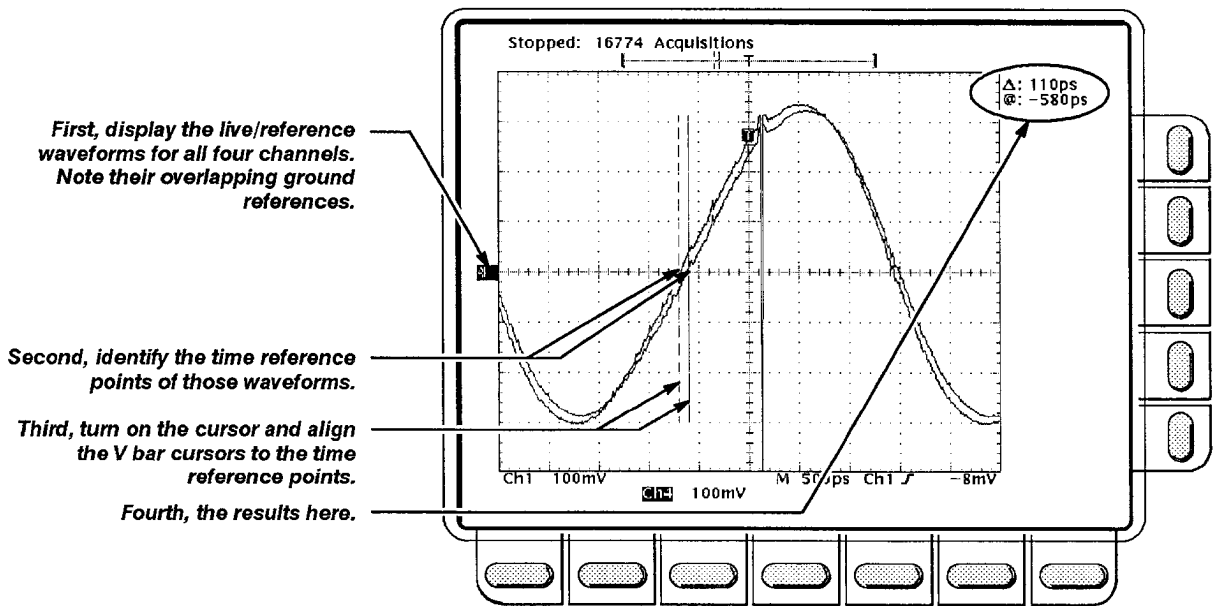

Figure 4-11: Measurement of Channel Delay
- Locate the point on the rising edge of the left-most waveform where it crosses the center horizontal graticule line. This is the *time reference point* for this waveform. Note the corresponding *time reference point* for right-most waveform. See Figure 4-11.
- Rotate the General Purpose knob to align one cursor to the *time reference point* of the left-most waveform edge and the other cursor to the *time reference point* of the right-most waveform edge. (Press **TOGGLE** to switch between the two cursors.) See Figure 4-11.